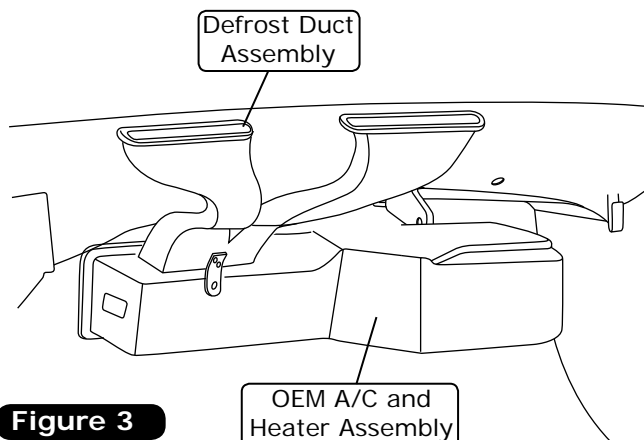

Figure 3
5. Remove the defrost duct assembly (discard) (See Figure 3, below).
6. Remove the OEM A/C and heater assembly (discard) (See Figure 3, below).